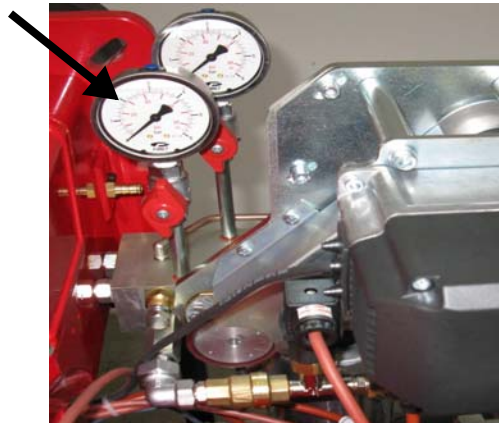

Fig. 18
**ATTENTION:** set the pressure value about 1 bar, at the pressure gauge 47 (see Fig. 18). check it before open valve 16!